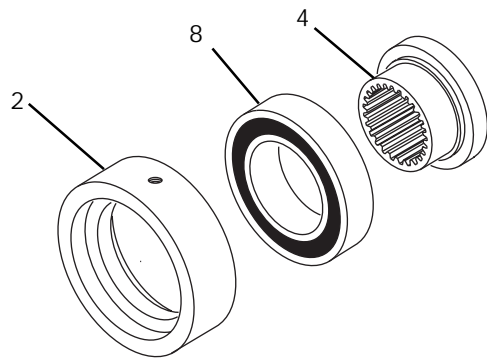

FIGURE 9
1. Press Drive Ring (Item 4) out of Ball Bearing (Item 8) (See Figure 9).
2. Remove Ball Bearing (Item 8) from Cylinder (Item 2) (See Figure 9).